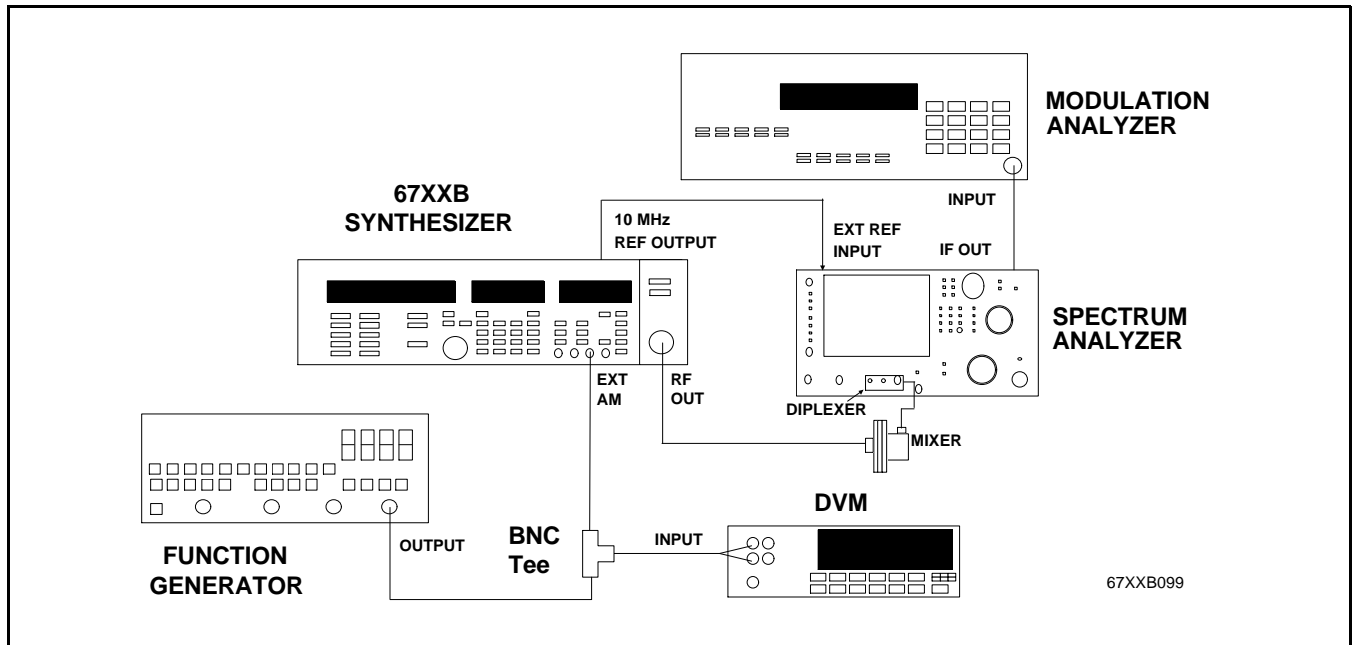

Figure 3-13. Test Equipment Setup for AM Sensitivity Calibration (20 to 60 GHz)
1. Connect the equipment, shown in Figure 3-13, as follows: